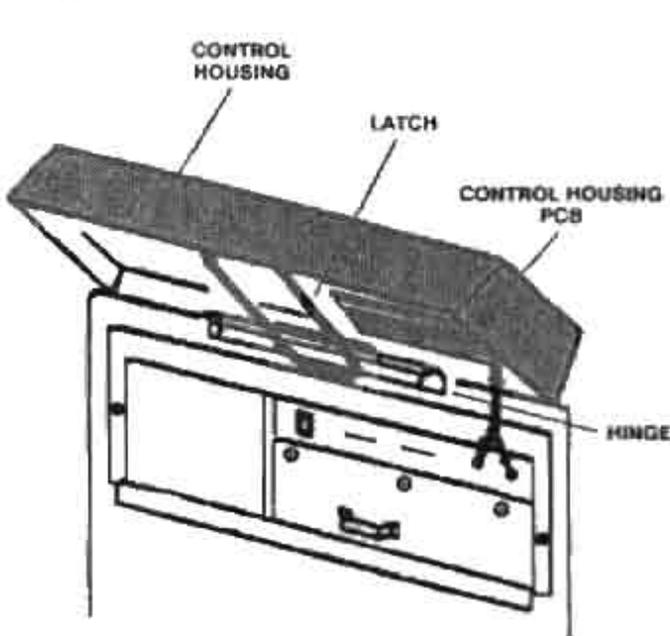
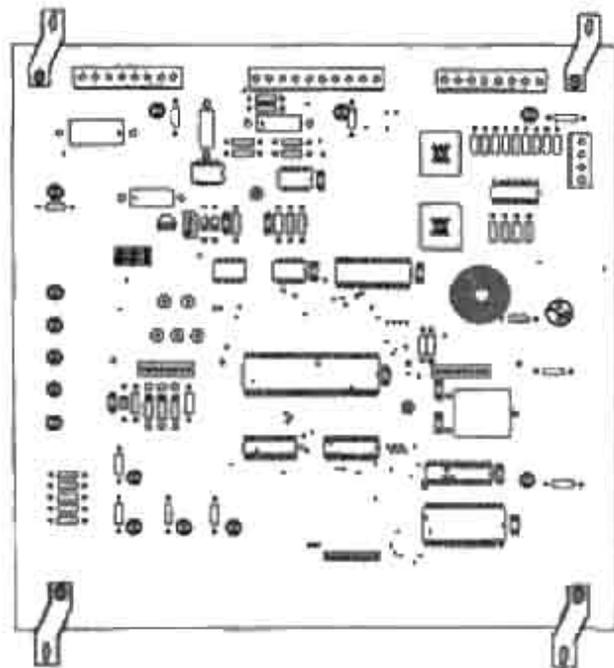

Figure 3-1. Control housing PCB location.
Figure 3-2. Control housing PCB
The control housing PCB is located on the underside of the control housing behind the control panel. (See fig 3-1 and fig 3-2.)
(4) Check that the following LEDs on the PCB (fig 3-2) are illuminated